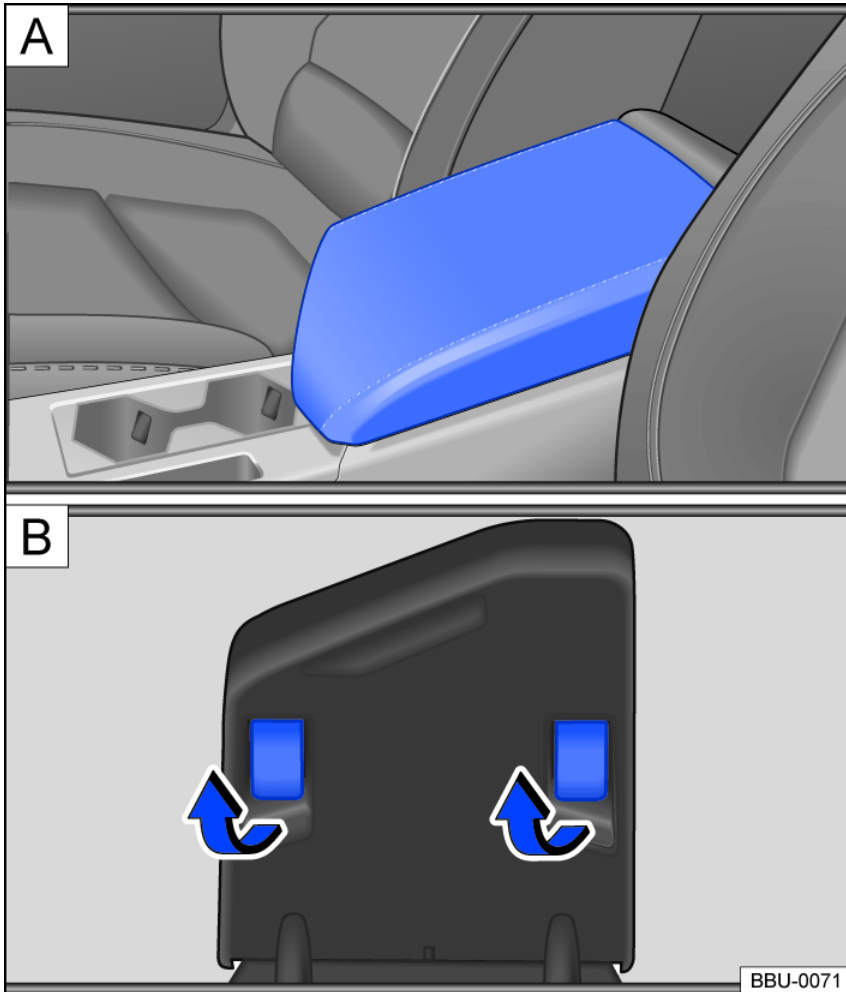

Fig. 76 Front center armrest.
- To **raise**: Pull the center armrest **A** *fig. 76* upward and fold the plastic supports in the direction of the arrow **B** *fig. 76*. Then press the center armrest down.
- To **lower**: Pull the center armrest **A** *fig. 76* upward and fold the plastic supports in the opposite direction to the arrow **B** *fig. 76*. Then press the center armrest down.